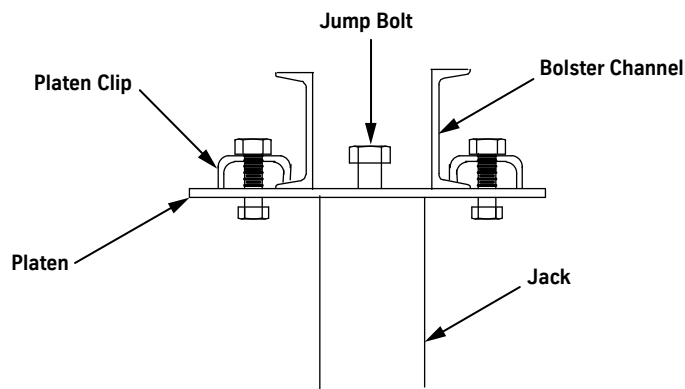

Figure 18 - Jump Bolt through Platen Plate
- e. Align the platen (as necessary), and tighten the platen clips to the bolster channels. See Figure 18.